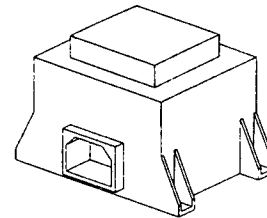

Fig. 4 Transformer
- Connect power cord to the transformer (Fig. 4), then to the mains wall socket.